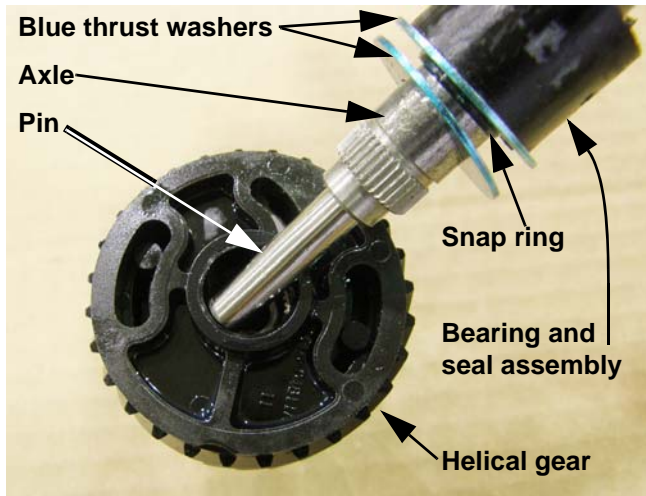

Figure 4.66
5. The helical gear assembly drives the axles through a splined connection. See Figure 4.66.